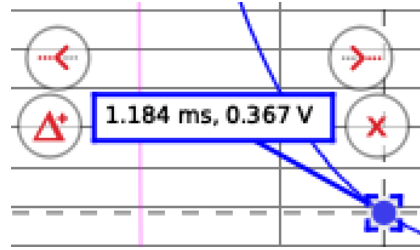

Figure 6: Coordinate Box
10. Click on this and a Box with the associated Voltage and Time values at that point along the curve will appear - as shown in Figure 6.